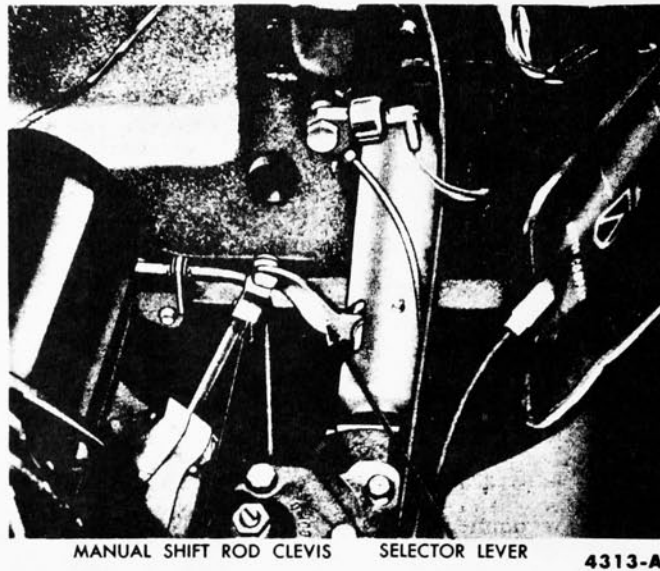

FIG. 3—Transmission Manual Linkage
1. With the engine stopped, disconnect the upper end of the manual shift rod and clevis (Fig. 3) from the shift selector lever.